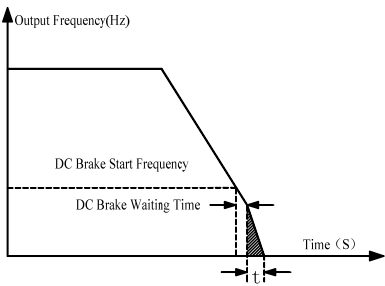

Figure 7-11 DC Brake Process at Stop
- 2.DC brake process at stop is as shown in Figure 7-11.